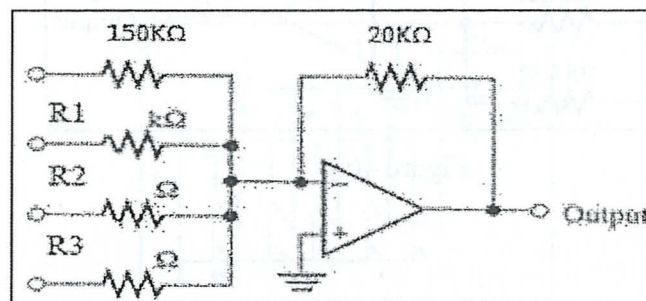

Figure 5(b)
- 7) Refer to Figure 5(c) below, given $R_1 = 150 \text{ k}\Omega$, $R_2 = 75 \text{ k}\Omega$, $R_3 = 37.5 \text{ k}\Omega$, $R_4 = 18.7 \text{ k}\Omega$ and $R_f = 20 \text{ k}\Omega$. Calculate the value of the output, V_{out} for a digital entries below :